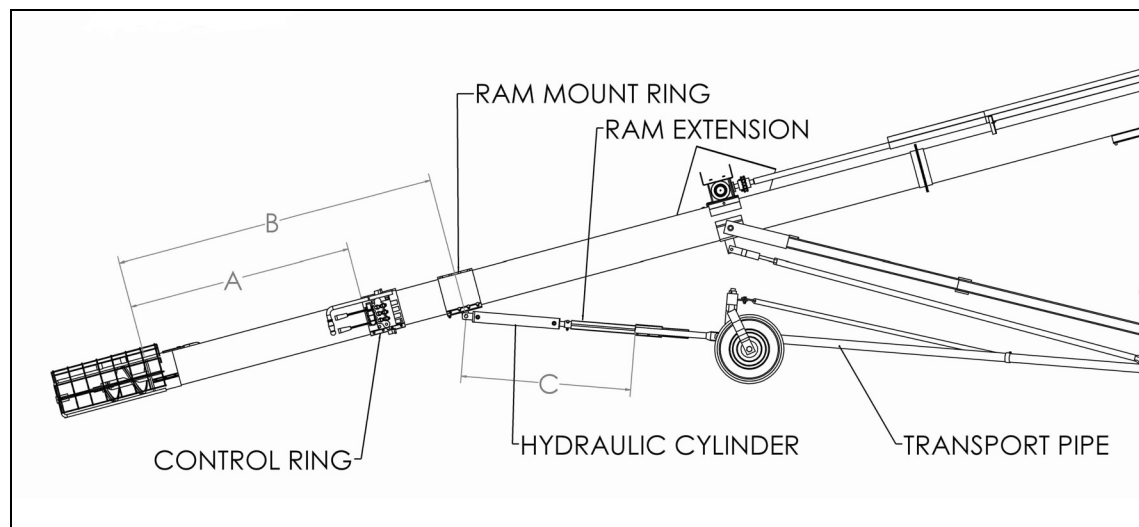

**Figure 3.15 A-Frame and Ram Extension**
5. Attach the ram mount a-frame onto the v-frame (Figure 3.15 and 3.16). Use 1/2" x 2" bolts and locknuts. Tighten the bolts so that the a-frame can still pivot on the tabs.
6. Attach the ram extension pipe to the ram mount a-frame using six 3/8" x 1-1/4" bolts and locknuts. Leave the a-frame bolts loose (Figure 3.15 and 3.16).